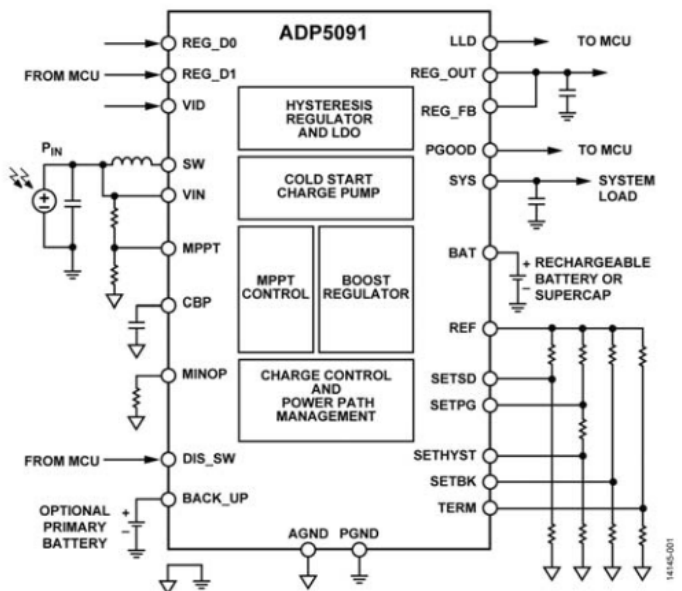

Figure 3: Analog Devices takes a system-level approach to IoT battery management.
Energy harvesting is an alternative, practical approach to eliminating batteries. A Power Management Unit (PMU) converts DC power from one energy source to another. For example, the ADP5091 and ADP5092 (Figure 3), by Analog Devices can be used in PhotoVoltaic (PV) cell energy harvesting, ThermoElectric Generators (TEG) energy harvesting, industrial monitoring, and self-powered wireless sensor devices as well as portable and wearable devices.